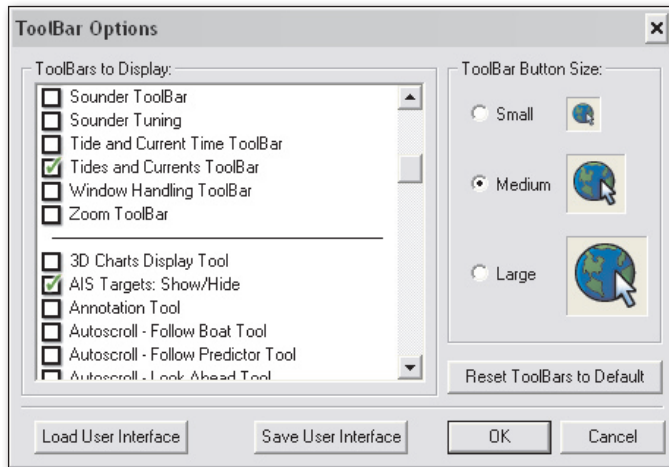

Figure 11.1 - ToolBar Options Menu
want to display. Remove the check-mark to turn the Tool or ToolBar off. The list is alphabetical. The top ¼ of the list contains ToolBars; the bottom ¾ of the list are individual Tools. The two types are divided by a horizontal black line (see **Figure 11.1**).
2. On the right-hand side of the ToolBar Options menu, you will see a section labeled **ToolBar Button Size** (as shown in **Figure 11.1**) and three radio buttons with options for **Small**, **Medium** and **Large**. Click the radio button that corresponds to the size you want to use - default setting is **Medium**.